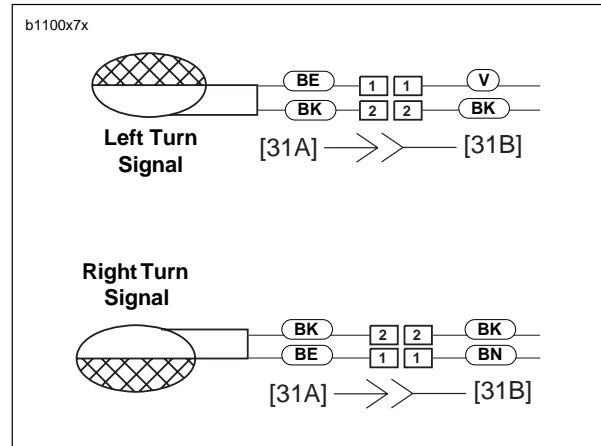

Figure 7-57. Front Turn Signal Connections
2. See Figure 7-57. Disconnect bullet connectors on turn signal wires.